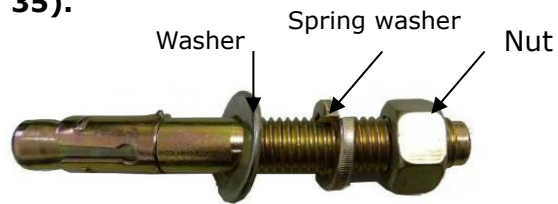

Fig. 35
1. Prepare the anchor bolts (See Fig. 35).